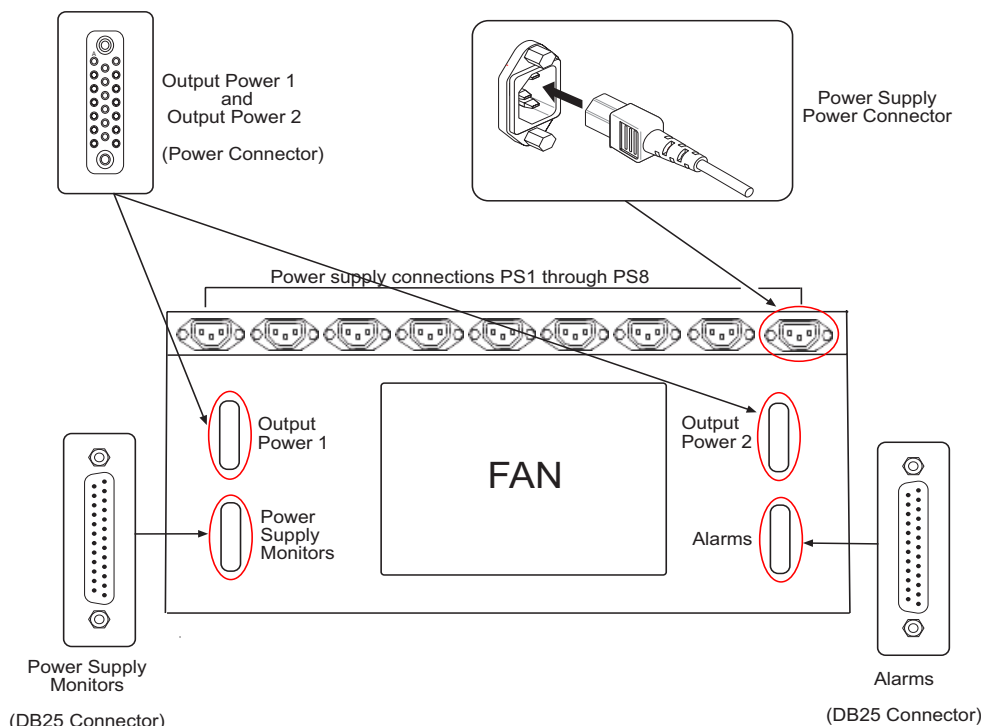

Figure 2-32. NV6257 Power Supply (Rear View)
- 1 On the rear of the **NV6257**, locate the ‘Alarms’ connection, as shown in Figure 2-32.